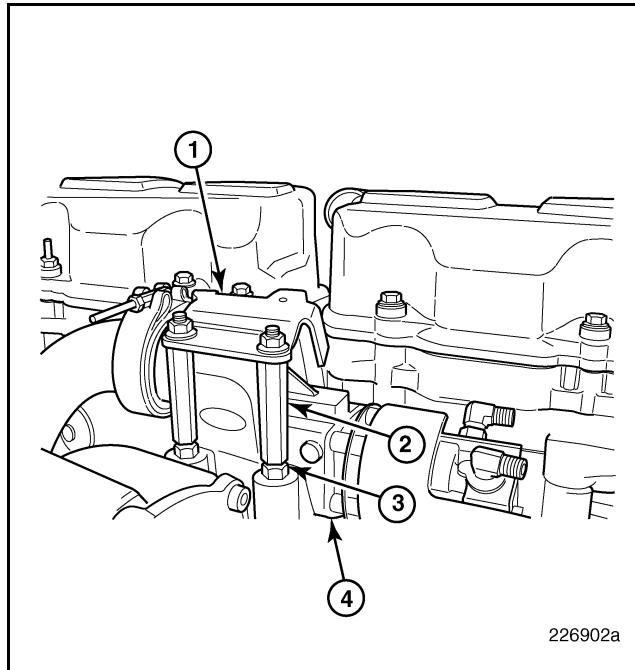

Figure 487 — Clamp Bracket Removal
1. With the cool tube removed, loosen and remove the three retaining nuts securing the clamp bracket to the top of the EGR valve (Figure 487). Remove the bracket and washers from the spacer studs.